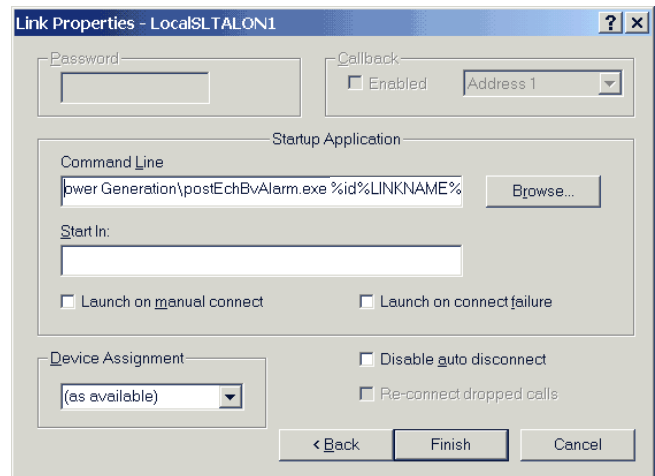

FIGURE 4-19. SLTA LOCAL LINK PROPERTIES
- f. Use the Speed drop-down arrow to select **38400** as the communication speed, click on **Next** to continue. The Link Properties dialog box is displayed (see Figure 4-19).
- i. The Command Line needs to be appended with additional instructions. Refer to Figure 4-19. Click inside the Command Line and use the right arrow key, to reach the end of the Command Line (or use the **End** key). Enter the following text, including spaces, enter a space before the first percent symbol: